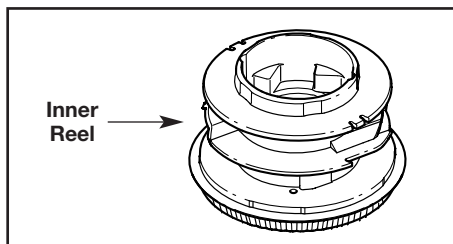

Fig. 18
3. Remove any debris or grass from the knob, spring, inner reel, and foam seal. Remove any existing line from the inner reel before cleaning. Wash the inner reel with warm soapy water (Fig. 18).